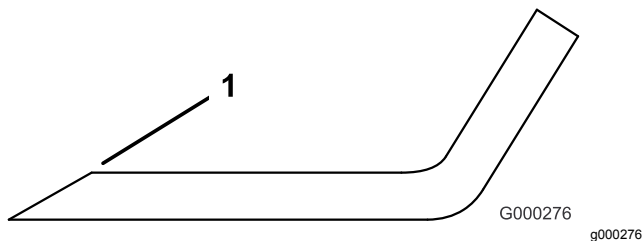

**Figure 107**
2. Examine the cutting ends of the blade carefully, especially where the flat and curved parts of the blade meet (Figure 107).
**Note:** Because sand and abrasive material can wear away the metal that connects the flat and curved parts of the blade, check the blade before using the mower. If wear is noticed (Figure 107), replace the blade.